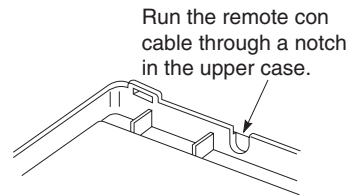
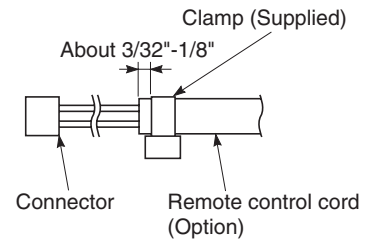

Fig. 1-230
Fig. 1-231
- (1) Insert a flathead screwdriver into the slot on the lower side of the signal receiving unit and pry off the back case.
- (2) The wire routing at the signal receiving unit comes out of the upper case (thin portion at upper center) so use nippers or a similar tool to cut out a notch beforehand large enough for the remote control cable (option) to pass through as shown in Fig. 1-230.
- (3) Remove the wire, which is connected prior to shipping, from the connector.
- (4) Connect the remote control cable (option) to the signal receiving unit connector as shown in Fig. 1-231 after the clamp (supplied) with the unit is installed.